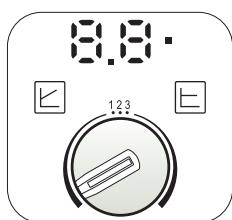

fig. 35
- Proportional Head Dp-v setting (fig. 35)